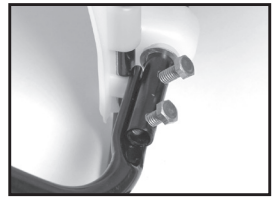
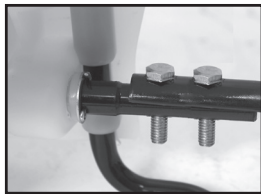

Figure 3
Figure 5
The pump handle can be mounted on either side of the pump shaft (A). To install the pump handle place the handle (C) over the shaft (A) aligning the pump handle holes and shaft holes. Slide the bolts (B) through the aligned holes as shown in figure 3. Tighten nuts (D) to bolts. There are holes in the pump handle to allow for either left [fig.2-4] or right [fig.5] hand mounting.